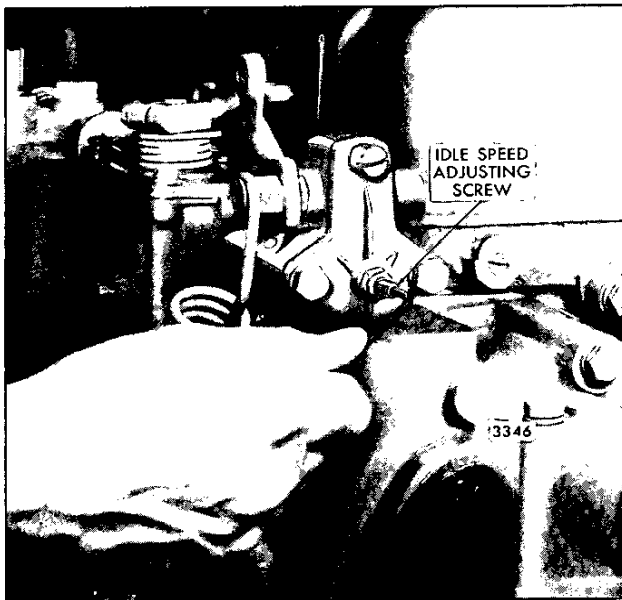

Fig. 6 - Adjusting Idle Speed
3. Loosen the locknut and turn the idle speed adjusting screw until the engine is operating at approximately 15 rpm below the recommended idle speed (Fig. 6). The recommended idle speed is 550 rpm, but may vary with special engine applications.